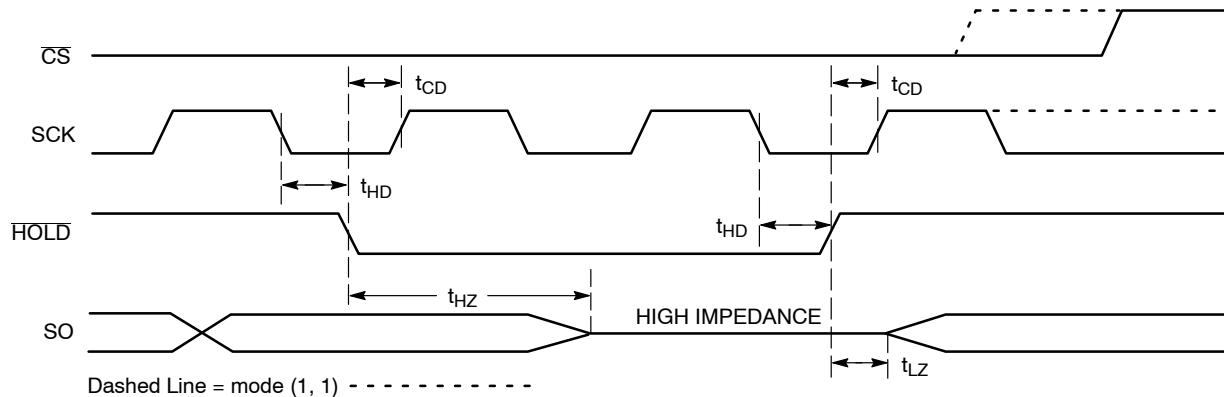

Figure 11. HOLD Timing
The HOLD input can be used to pause communication between host and CAV25128. To pause, HOLD must be taken low while SCK is low (Figure 11). During the hold condition the device must remain selected (CS low). During the pause, the data output pin (SO) is tri-stated (high impedance) and SI transitions are ignored. To resume communication, HOLD must be taken high while SCK is low.